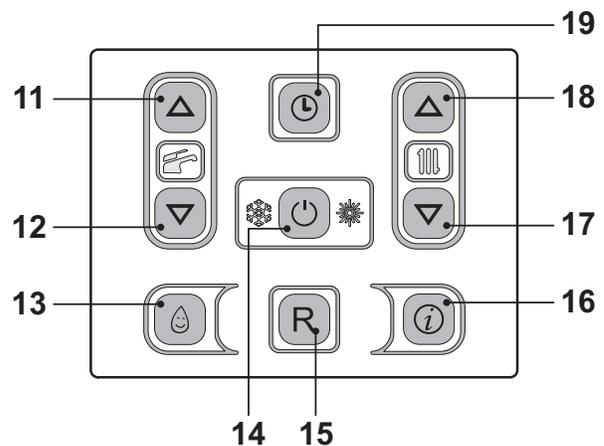

Fig. 2.9
- Press the key 14 for 2 seconds until the  symbol appears on the display Fig. 2.9.
The output temperature of c.h. water can be adjusted by acting on keys 17 (reduce) and 18 (increase) (Fig. 2.9) from a minimum of about 25°C to a maximum of about 85°C. Press one of the two keys once to display the "set" value. Press again to access the modification.
In this case the boiler must be set by a qualified installer (see "Setting the K coefficient of the external temperature probe" to page 67). However, if the ambient temperature is not comfortable, the flow temperature of the heating plant can be increased or reduced by $\pm 15^\circ\text{C}$ by acting on keys 17 (reduce) and 18 (increase) (Fig. 2.9).
The heating temperature of the zone valve controlled by a thermostat is configured on the boiler control panel using keys 17 and 18 Fig. 2.9.
The temperature of the d.h.w. can be adjusted by acting on keys 11 (increase) and 12 (reduce) (Fig. 2.9) from a minimum of about 35°C to a maximum of about 60°C. Press one of the two keys once to display the "set" value. Press again to access the modification.